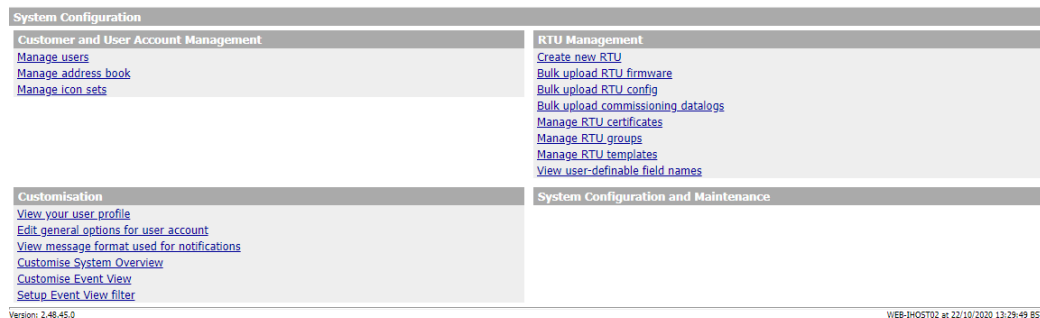

Figure 12.5 System Configuration menu
Setting up the system can be achieved by clicking on the “Configuration” tab in the Quick Access Menu (9), which brings up the System Configuration menu (Figure 12.5).